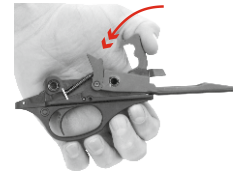

Fig.24
7. When reinstalling the trigger group, the hammer must be in its cocked position. To cock the hammer, pull down on the hammer with your thumb until it locks into place as shown in (Fig.24).